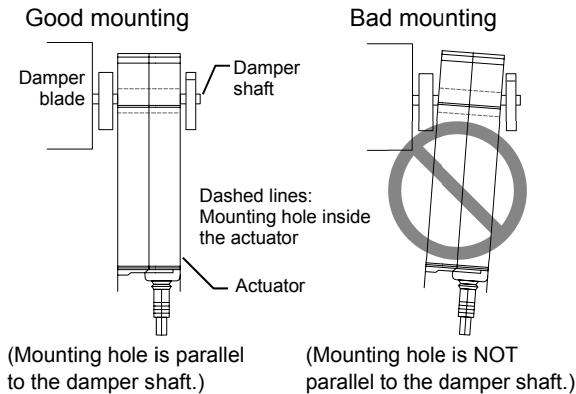

Figure 14. Good and bad mounting orientation for 15–85 mm long damper shaft
- 7) Fix the clamp on the "R" face of the actuator with the C-clip pulled out at the step 1). See Fig. 14 for the actuator mounting orientation.